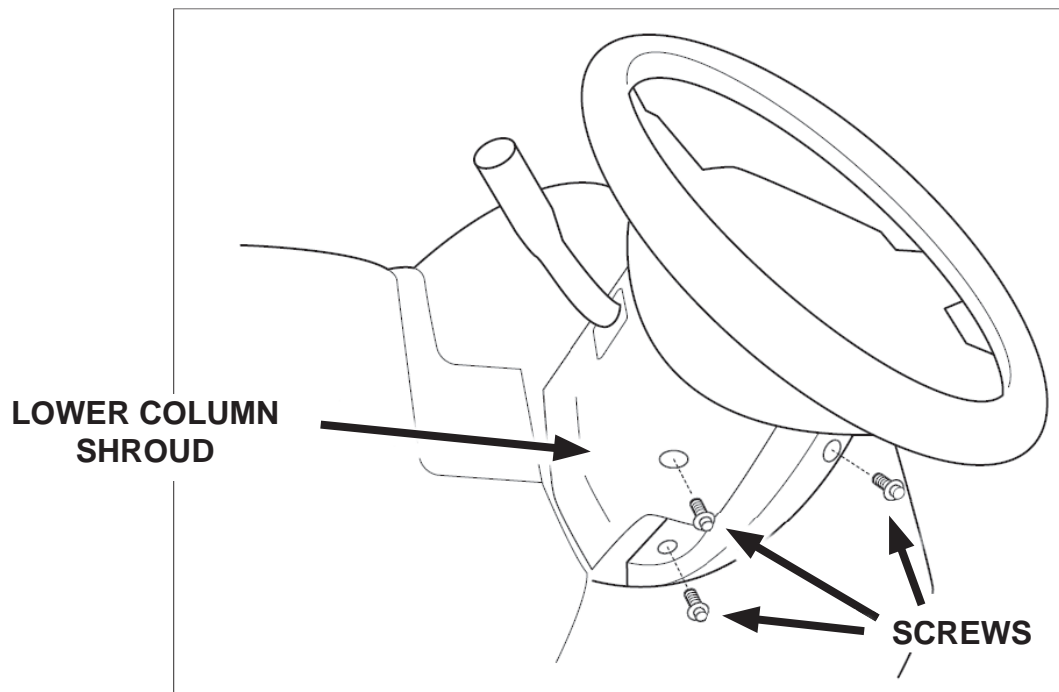

FIGURE 5
9. Remove the three machine screws holding the lower column shroud and remove the lower column shroud. See Figure 5.